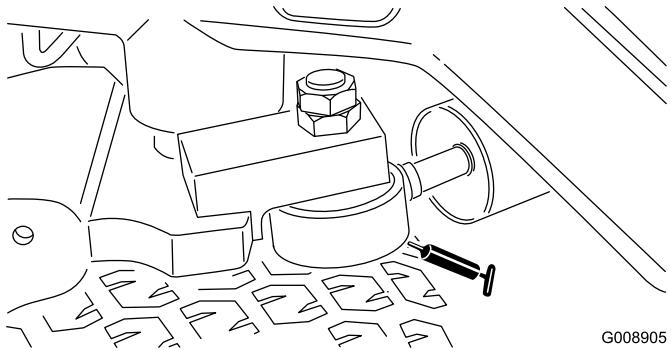

Figure 58
**Note:** If desired, install an additional grease fitting in the other end of the steering cylinder. Remove the tire, install the fitting, grease the fitting, remove the fitting, and install the plug (Figure 58).